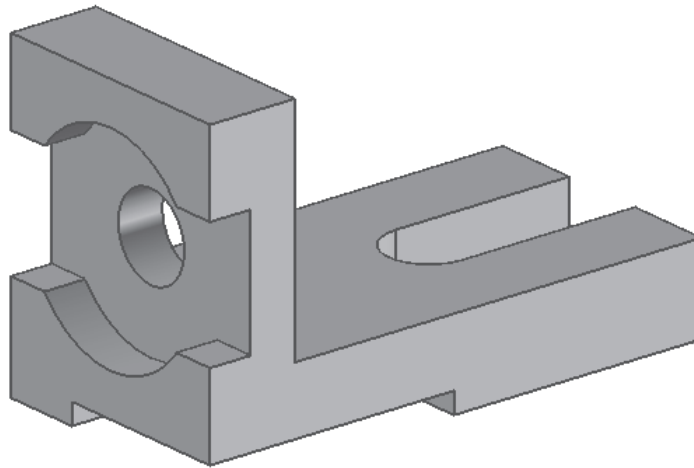

Figure 4-76 Final model for Tutorial 2
1. Similarly, draw a circle on the new face that is exposed because of the last cut feature and then extrude the circle using the **Subtract** operation and the **Through All** termination. The final model of Tutorial 2 is shown in Figure 4-76.